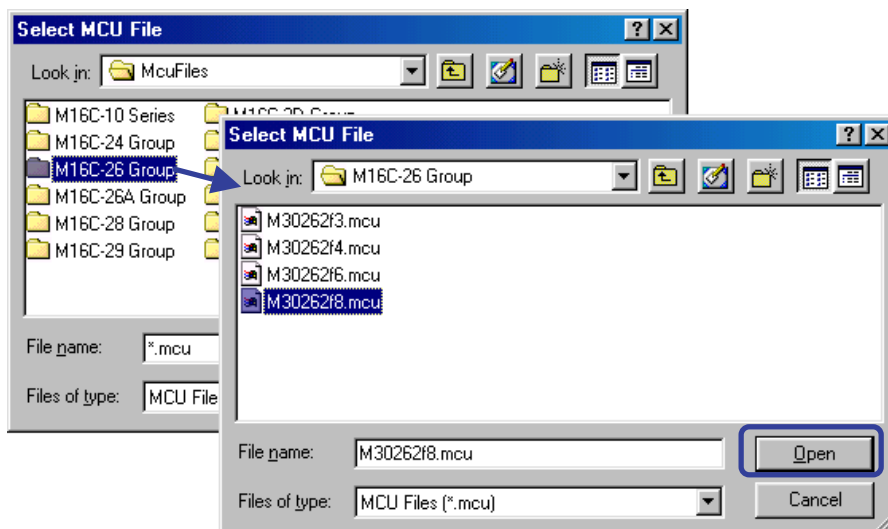

Figure 5-3 Select MCU File screen
- 2) Next, the Select MCU File screen on Figure 5-3 will be displayed. For KD30, select the category folder of MCU to be used from the MCU category folder of the McuFiles folder and open it. For KD3083, open the MCU File from the McuFiles folder.